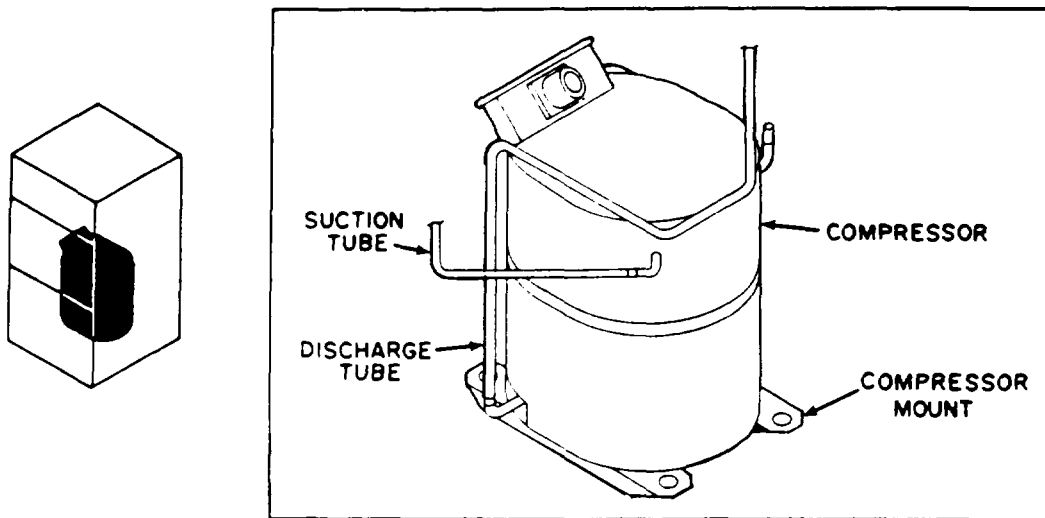

Figure 5-11. Compressor.
d. INSPECTION. See Figure 5-11.